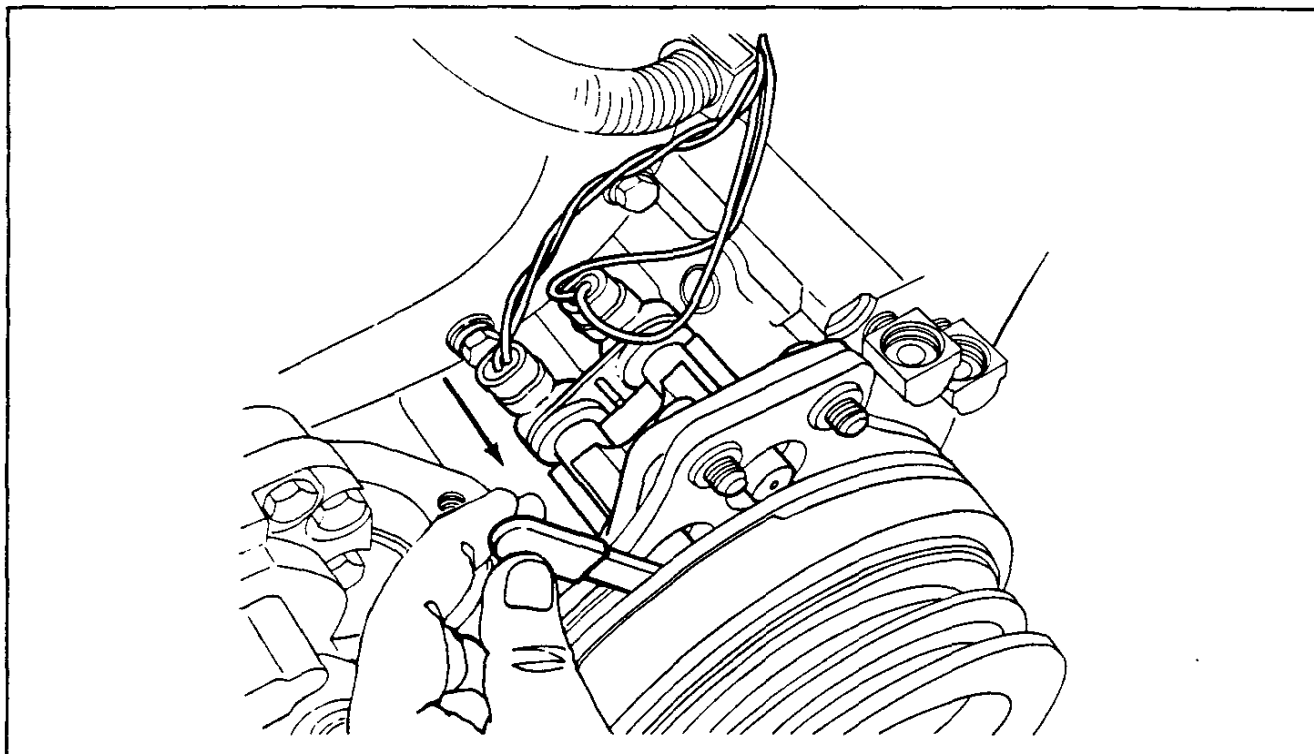

Figure 16
5. Push gently on the end of the TRS so that the timing tool is in direct contact with the TRS and the raised metal teeth of the Pulse Wheel (Fig. 16).